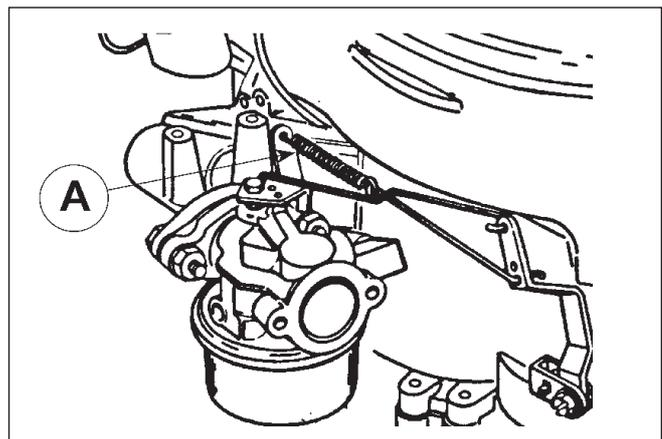

Fig. 24-1
**i) FIXED SPEED CARBURETTORS. (Fig 24-1)**